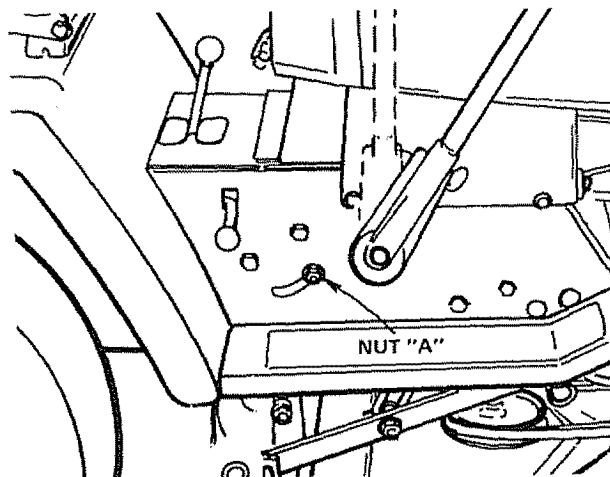

FIGURE 56
- Loosen Nut "A" on R.H. outside of Frame (Fig. 56).